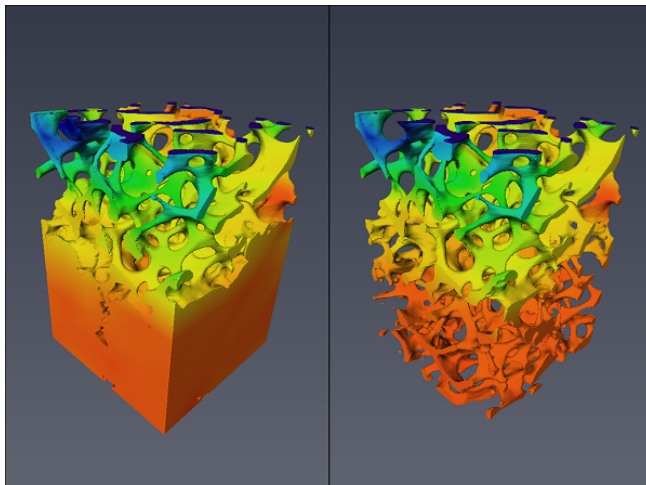

Figure 20.17: 3D Visualization of the Axial Strain in the Bone-Cement (left) and Bone phase (right)
- Using the *Buffer* port, click on **Clear** action button then select a Material of interest (bone or cement) and click on **Add** action button to display it. (see Figure 20.17).